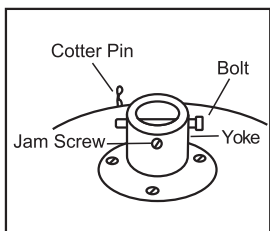

Fig 3-1
7. After wiring is completed, attach the canopy to the hanger bracket by pushing upwards and twisting anti-clockwise. Locate screws in keyholes and tighten. (See fig 3-1 ~ fig3-5)